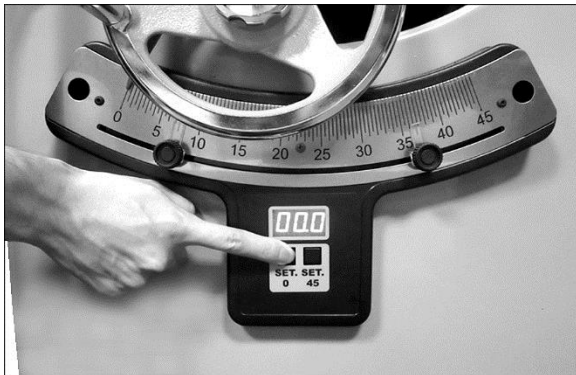

Figure 8-13
3. If saw blade is relatively close to 0°, set blade to exactly 0° and press “SET 0” button. Readout will display 0.00. See Figure 8-13.